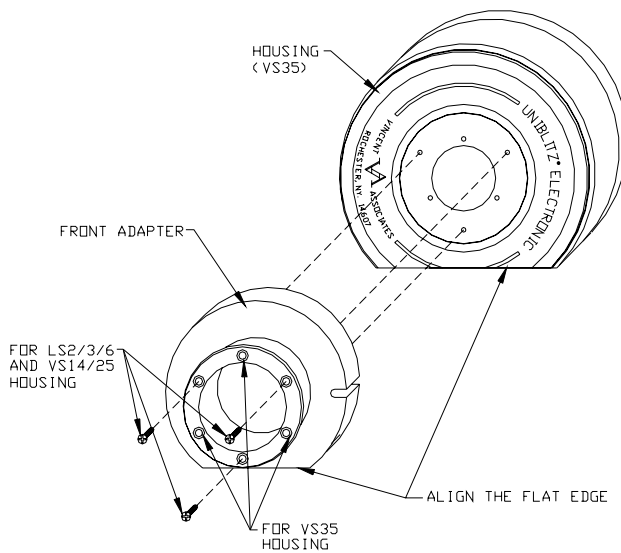

Figure 3
- Using (3) 2-56 flat head screws attach front adapter to the front of the housing. (see Figure 3)